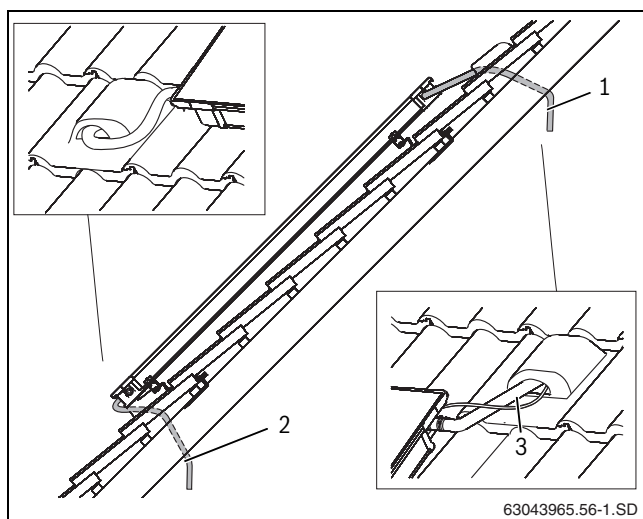

Fig. 47 Run the cables under the rooftop
- Run the hose together with the probe cable along the ventilated tile (Fig. 47, [1]) and through the rooftop insulation.